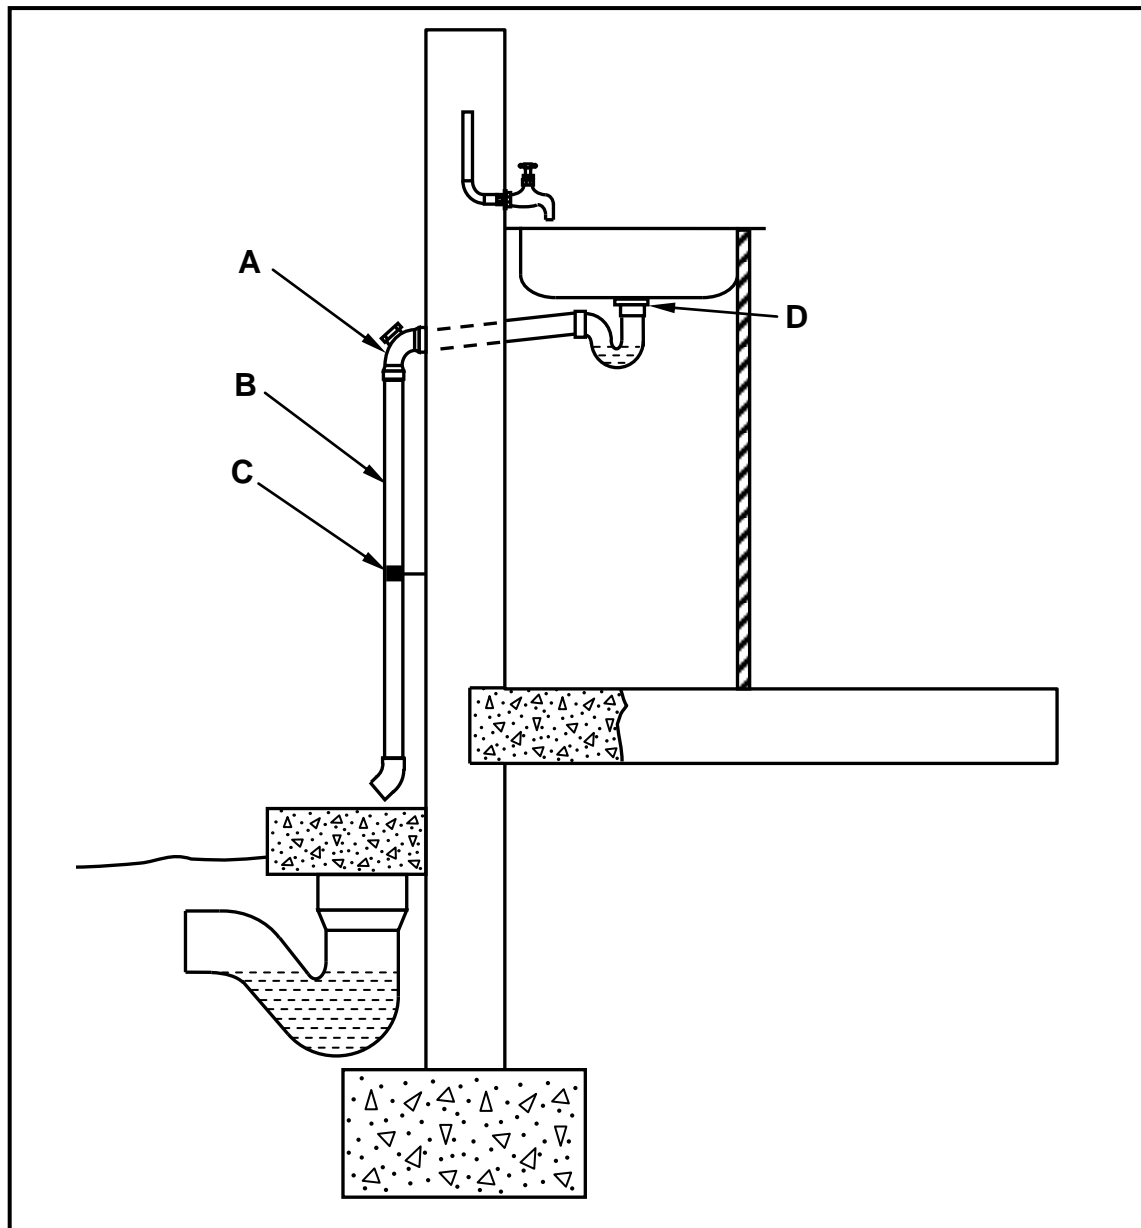

FIGURE 6.3
- 6.3 FIGURE 6.3 below shows a sectional view of a sink with the required pipe work and a gully. Study the drawing and answer the questions that follow.